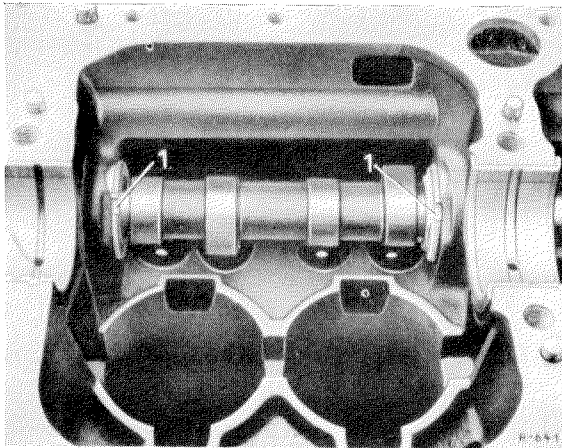

Figure 05-35/5
21. Drive the camshaft into the crankcase with the Assembly Bolt Part No. 136 589 02 39, so that the bores for the locating screws in the 1st and 2nd camshaft bearing coincide with the holes in the crankcase (see Figure 05-35/1).
If the camshaft bearings are not aligned properly, they can be turned at the grooves (1) (see Figure 05-35/5).
22. If the bores for the locating screws in the camshaft bearings coincide with the bores (tapped bores) in the crankcase, screw in the locating screws 1, 2 and 3 to secure the camshaft bearings (see Figure 05-35/1). The screws must run easily. Special care has to be taken at the screw (1) of the 1st camshaft bearing, so that the opening of the adapter is not covered by a chip, thus stopping the oil supply to the rockers. The locating screws 1 and 3 must be mounted with aluminium sealing rings to seal against external influences.
23. Apply sealing compound to the thread of the screw plug (9) of the 3rd camshaft bearing and screw the plug into the 3rd camshaft bearing, so that approx. 2 to 3 leads of the thread are still protruding.
Then lightly caulk the protruding part of the screw with a suitable piece of pipe, so that the thread seals properly. The caulking must be done with a pipe, so that the box hexagon of the screw is not damaged. After the caulking of the screw plug (9) screw it in with a hexagon end screwdriver 19 mm wide, so that the plug will be properly and tightly seated (see Figure 05-35/4).